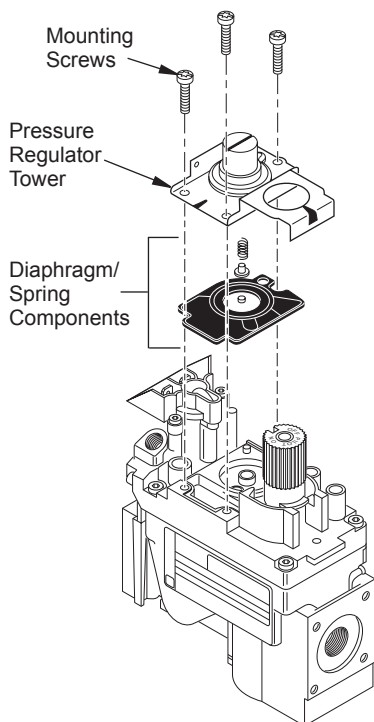

Figure 10 - Removing Mounting Screws, Pressure Regulator Tower and Diaphragm/Spring Components
1. Using a TORX T20 or slotted screwdriver, remove and discard three mounting screws, pressure regulator tower and diaphragm/spring components (see Figure 10, page 9).